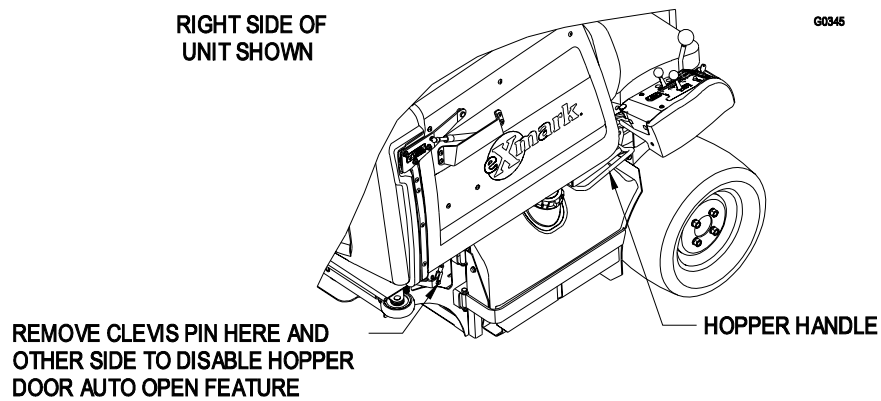

FIGURE 2
- d) Dump hopper by firmly grasping one of the hopper handles on either side of the unit and lifting the hopper. The rear door opens automatically when hopper is raised. See Figure 2 instructions on disabling the auto door open feature.